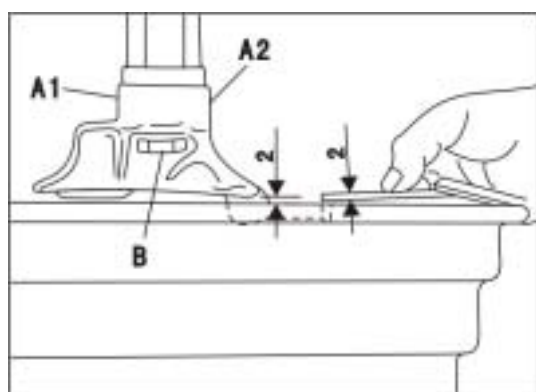
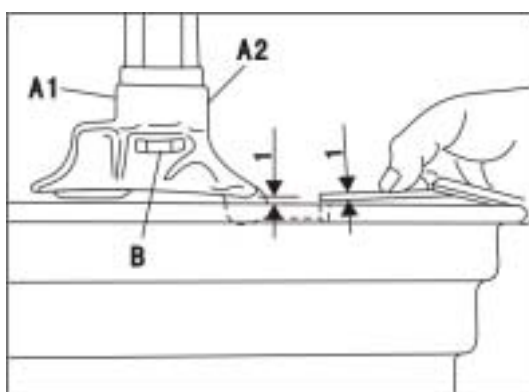
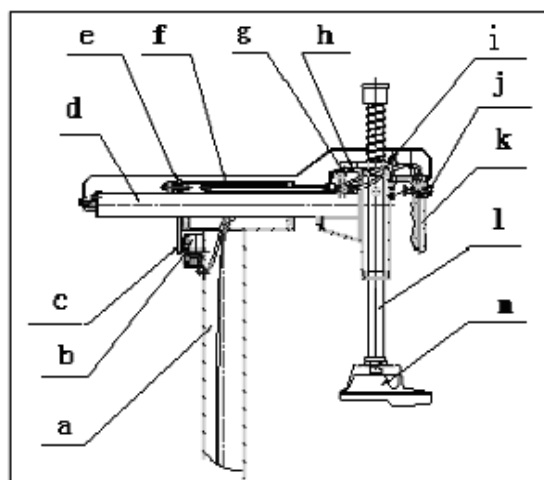

Fig.35
Fig.36
Fig.42
- Tighten screws A1-A2 (fig.35, 39 mount/demount head with roller; fig.36, 40 mount / demount head with insert) to tilt the mount / demount head and obtain the correct position and then finger-tighten screw B.
- If measurement 2 (roller, fig.35) or measurement 1 (insert, fig.36) are changed, the cause may be that nut i(fig.42) has loosened.
- If measurement 2 (fig.370) has changed, this may be due to loose nut e(fig.42) or deformation of locking plate c (fig.42).in both case simply adjust the nut, tighten or slacken to increase or reduce movement range. Secure nuts with minimum tightening torque 70Nm.
- As shown in the figure 42, use (air valve) locking button J on the handle (k) to control movement of the clamping cylinder. When thumbed down the button, the external shells of clamping cylinders (b and g) are pushed out. Their external shells touch locking boards (c and h). The tilting of the boards will lock the horizontal arm and the hexagonal column.